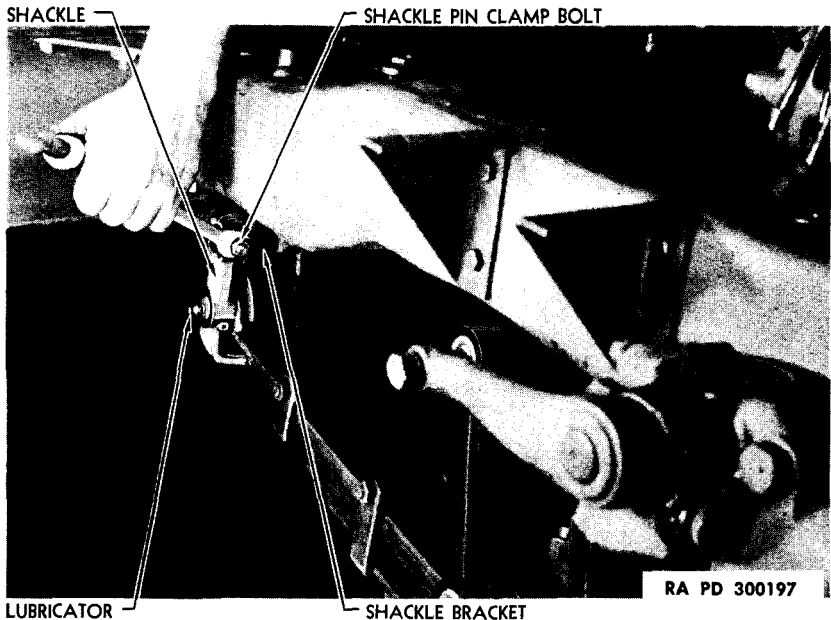

Figure 110—Removing Shackle Pin Clamp Bolt
a. Place jack under truck and raise frame high enough to relieve weight on springs. Remove lock bolt nut, lock washer, and lock bolt (fig. 110). With hammer and soft drift, drive pins out, freeing shackles and springs.